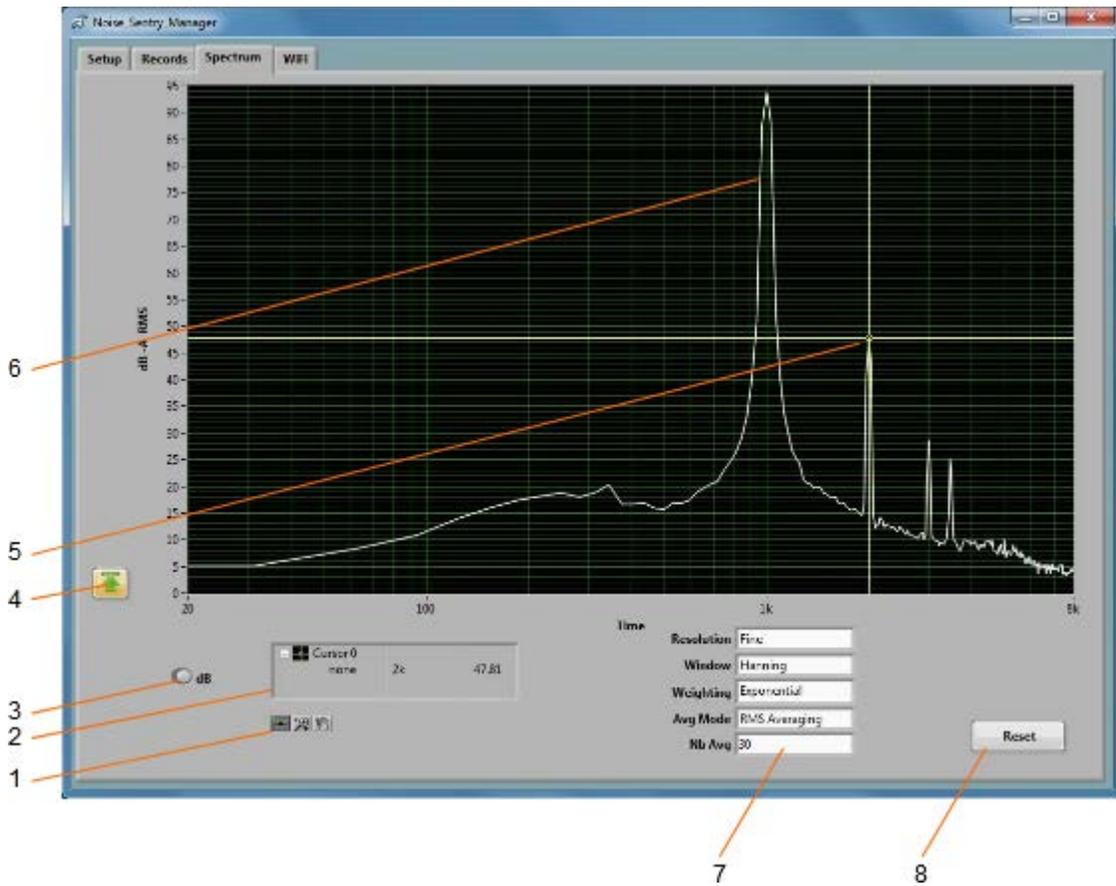

Figure 4 **Spectrum Tab**
- **The Spectrum Tab:** Is used to display a real-time power spectrum from the `NSRTW_mk2` (see Figure 4).